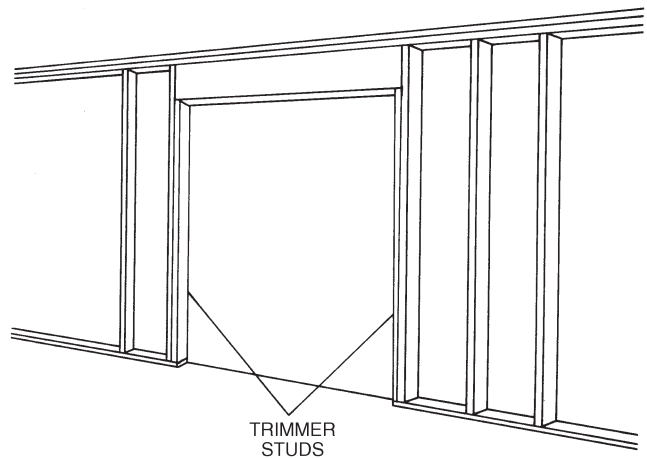

Fig. 9-134 Placement of jack or trimmer studs in the rough opening. (Andersen.)
4. Cut the jack or trimmer studs to fit under the header. This will support the header. Nail the jack or trimmer studs to the regular studs (Fig. 9-134).